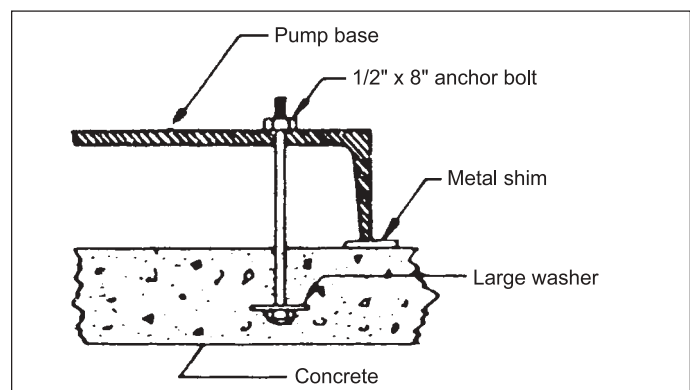

Figure 1
- The foundation for the pump is important. The foundation must be firm, level and preferably made of concrete. The suggestions in figure 1 should be observed.